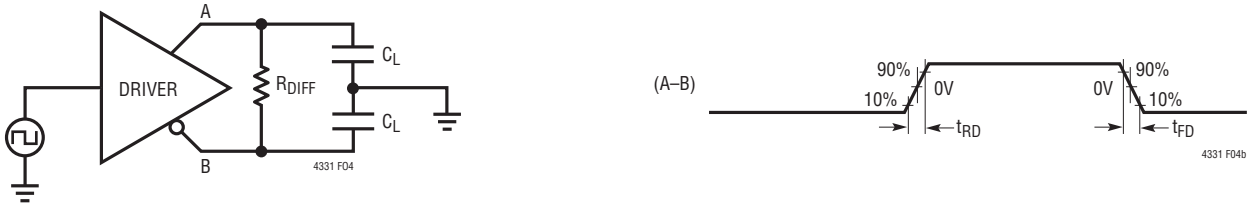

Figure 4. Driver Timing Measurement
| t_{RD} , t_{FD} | Driver Rise or Fall Time (Figure 4) | $R_{\text{DIFF}} = 54\Omega$, $C_L = 100\text{pF}$, $\text{SLO} = 1$ $R_{\text{DIFF}} = 54\Omega$, $C_L = 100\text{pF}$, $\text{SLO} = 0$ | ● ● | 500 | 4 800 | 15 1200 | ns ns |
- IEC 61000-4-2 Edition 2.0 2008-12 ESD Level 4: $\pm 8\text{kV}$ contact (A or B to GND, direct discharge to bus pins with transceiver and protection circuit mounted on a test card with a low impedance ground discharge path from board GND to ESD gun return lead, per Figure 4 of the standard)